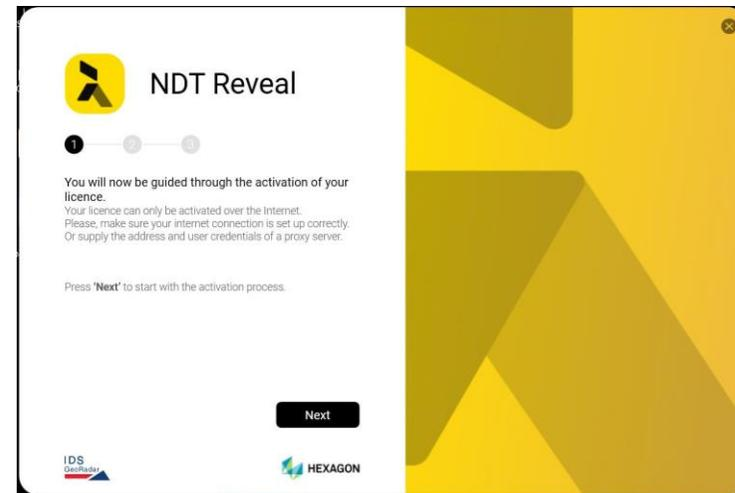

Fig. 9 NDT Reveal Activation Procedure step 1
9. After installation, **NDT Reveal** must be activated via EID (Fig. 9). Press NEXT,